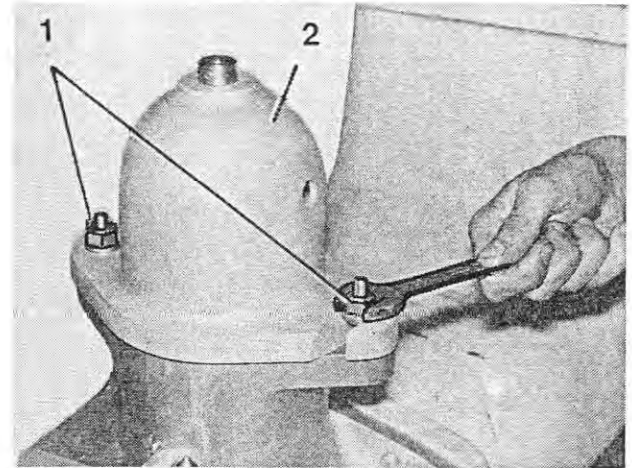

Fig. 200
6. Loosen the hex nuts (Figure 200/1). Turn the compensating cylinder (Figure 200/2). Pull it out of the intermediate housing and clean it.